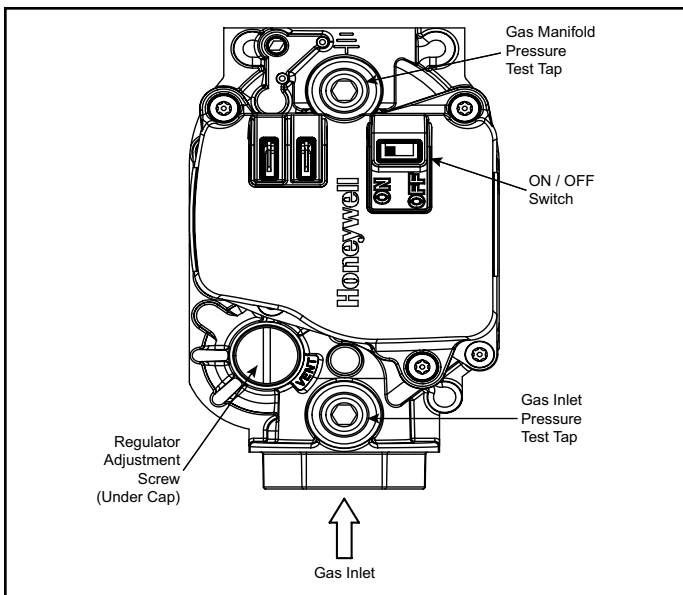

Figure 10. Gas Valve
3. Move the gas valve switch to the “ON” position (see Figure 10).
2. Move the gas valve switch to the “OFF” position (see Figure 10).